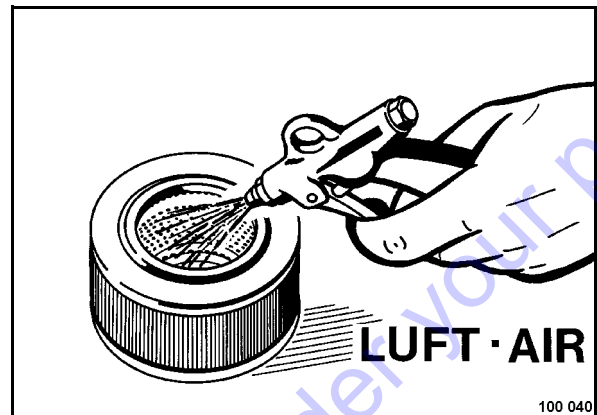

Fig. 81
- Blow the filter cartridge out from inside to outside with dry compressed air (max. 5 bar) (Fig. 81).